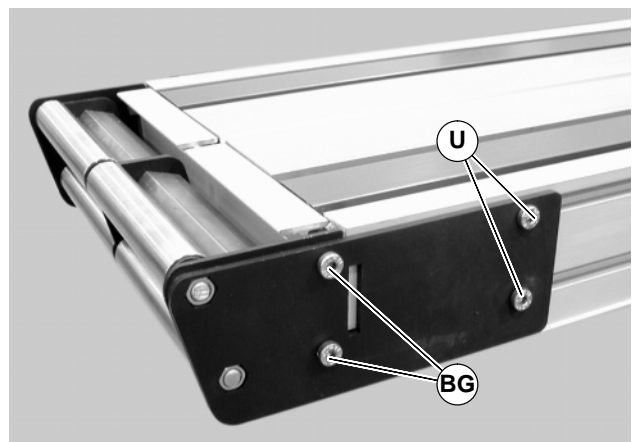
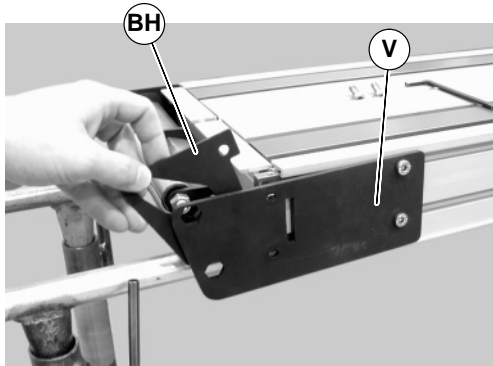
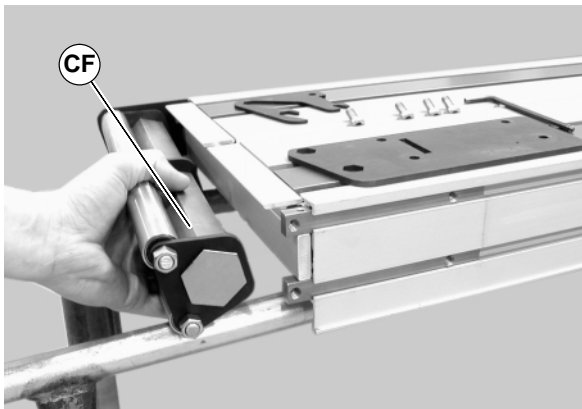

Figure 65
Figure 66
Figure 67
2. On one side of conveyor, loosen the two (2) back fastening screws (U of Figure 65), and remove the two (2) front fastening screws (BG).
3. Pull back the outer headplate (V of Figure 66) and remove the inner spacer (BH).
4. Slide the transfer tail pulley assembly (CF of Figure 67) out of the headplate on the opposite side.
NOTE: Transfer tail assembly must be removed as on piece. Removal may require removing screws U of Figure 65 and headplate V of Figure 66 as shown in Figure 67